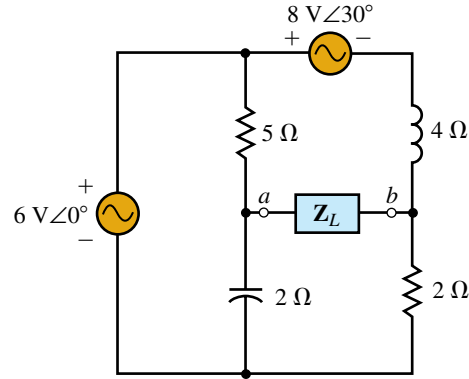

FIGURE 20–85
- 43. Repeat Problem 41 for the circuit of Figure 20–85.